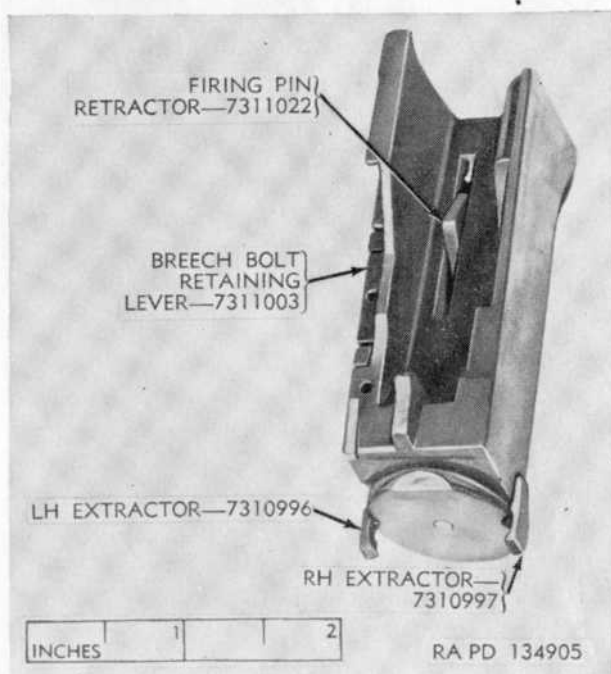

Figure 27. Breech bolt group for Winchester shotgun M12.
- (1) Remove the breech bolt group (fig. 27) as described in paragraph 35c.
- (2) Insert a small screwdriver between the right hand extractor and the right hand extractor spring plunger. Force the plunger back into its recess and lift out the right hand extractor. Remove the right hand extractor plunger and spring.
- (3) Drive the left hand extractor pin out from the bottom of the bolt to the top, using a suitable drift. Remove the left hand extractor and the left hand extractor spring.
- (4) Drive out the breech bolt retaining lever pin with a suitable drift. Remove the breech bolt retaining lever.
- (5) Unscrew the firing pin retractor screw, while holding the firing pin retractor spring compressed. Remove the firing pin retractor, the firing pin retractor spring, and the firing pin.
- (4) Insert the breech bolt retaining lever in its seat and secure with the breech bolt retaining lever pin.
- (5) Insert the left hand extractor spring in its seat in the bolt. Position the left hand extractor and secure with the left hand extractor pin. Stake the pin in place.
- (6) Insert the right hand extractor spring and plunger in their holes in the front face of the breech bolt. Depress the plunger with a small screwdriver and slide the right hand extractor into its aperture.
- (7) Install the breech bolt group (fig. 27) as described in paragraph 43b.